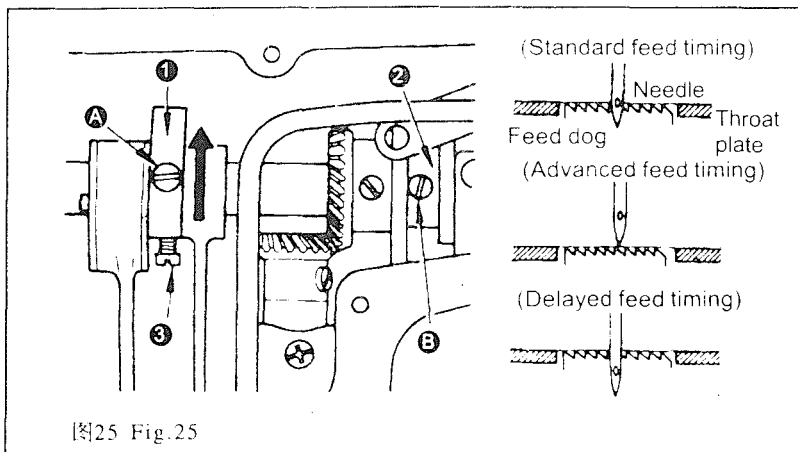

图25 Fig.25
19. 送料相位的调节(图25)
19. ADJUSTING THE FEED TIMING (Fig.25)